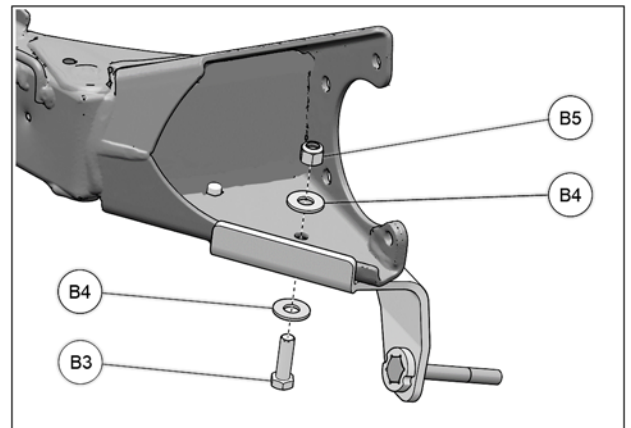

Fig. 8
7. Insert a 3/8-24 mounting bolt (**B3**) from the bottom and secure anchor bracket with provided nut (**B5**) and washers (**B4**). Tighten to 40 N•m [37 lb•ft] of torque. See Fig. 8